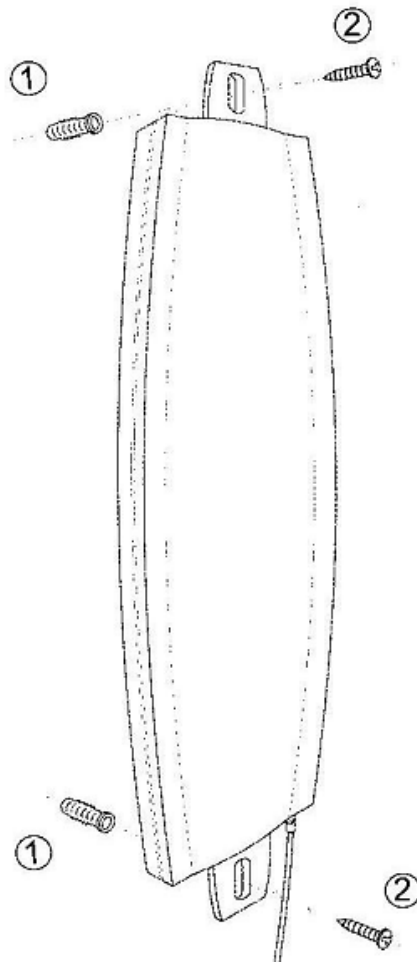

Figure 2-15: Wall Mounting the 3.5 GHz Detached Antenna
- 2 Fasten the antenna to the wall. Refer to Figure 2-15 for directions. Use the two #8 screws provided with the kit. Do not over tighten.